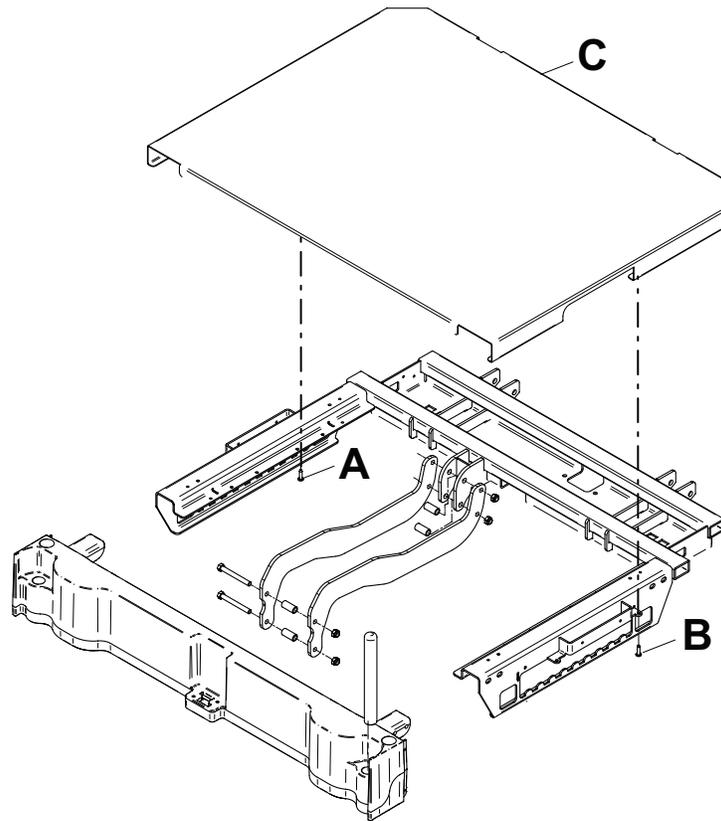

Figure 54 – Remove electrical cover
5. Using a #2 Phillips screwdriver, remove the two screws (A and B) that secure the electrical cover (C) (Figure 54). Save the cover and screws.